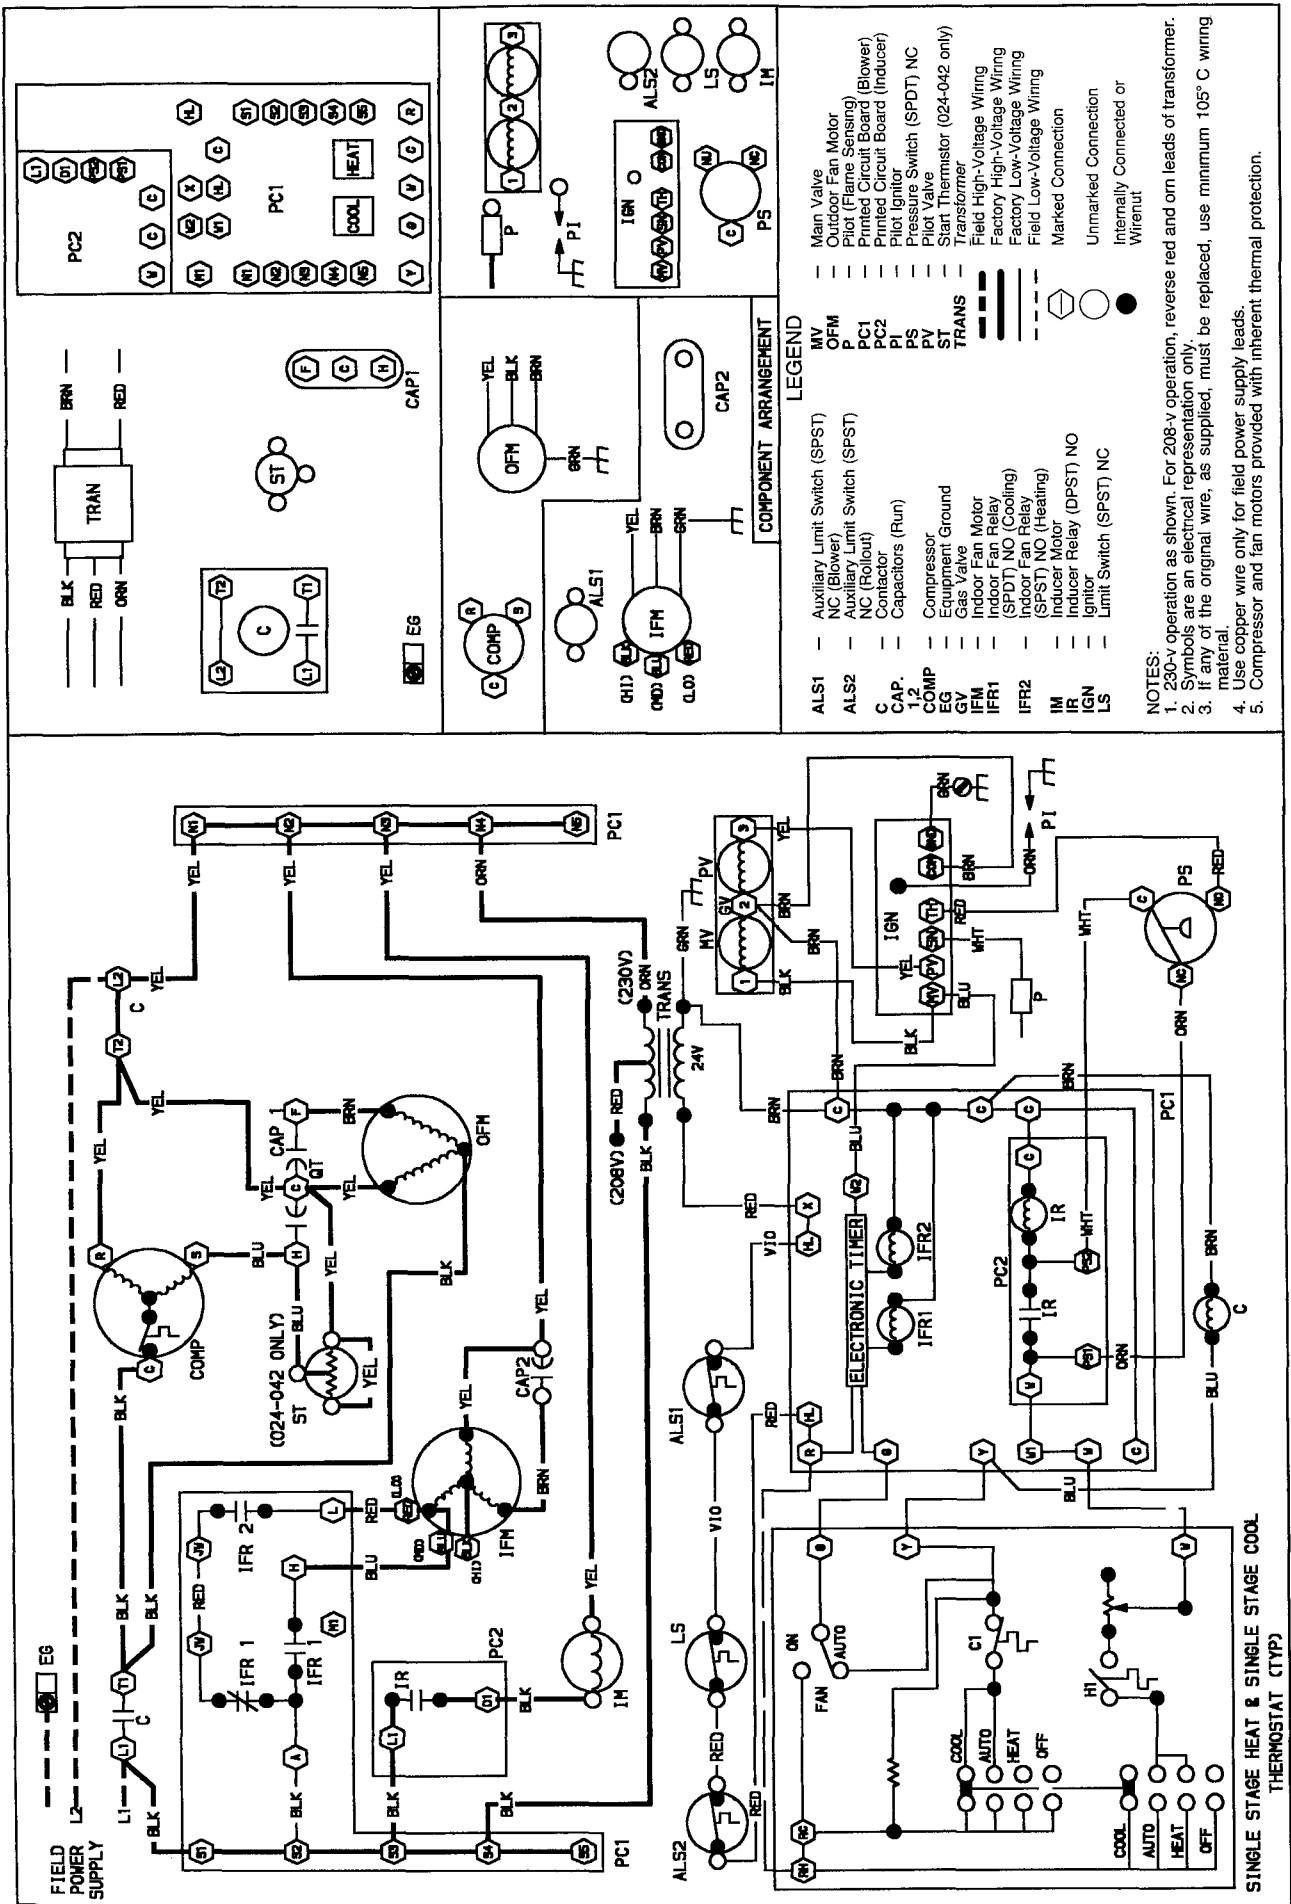
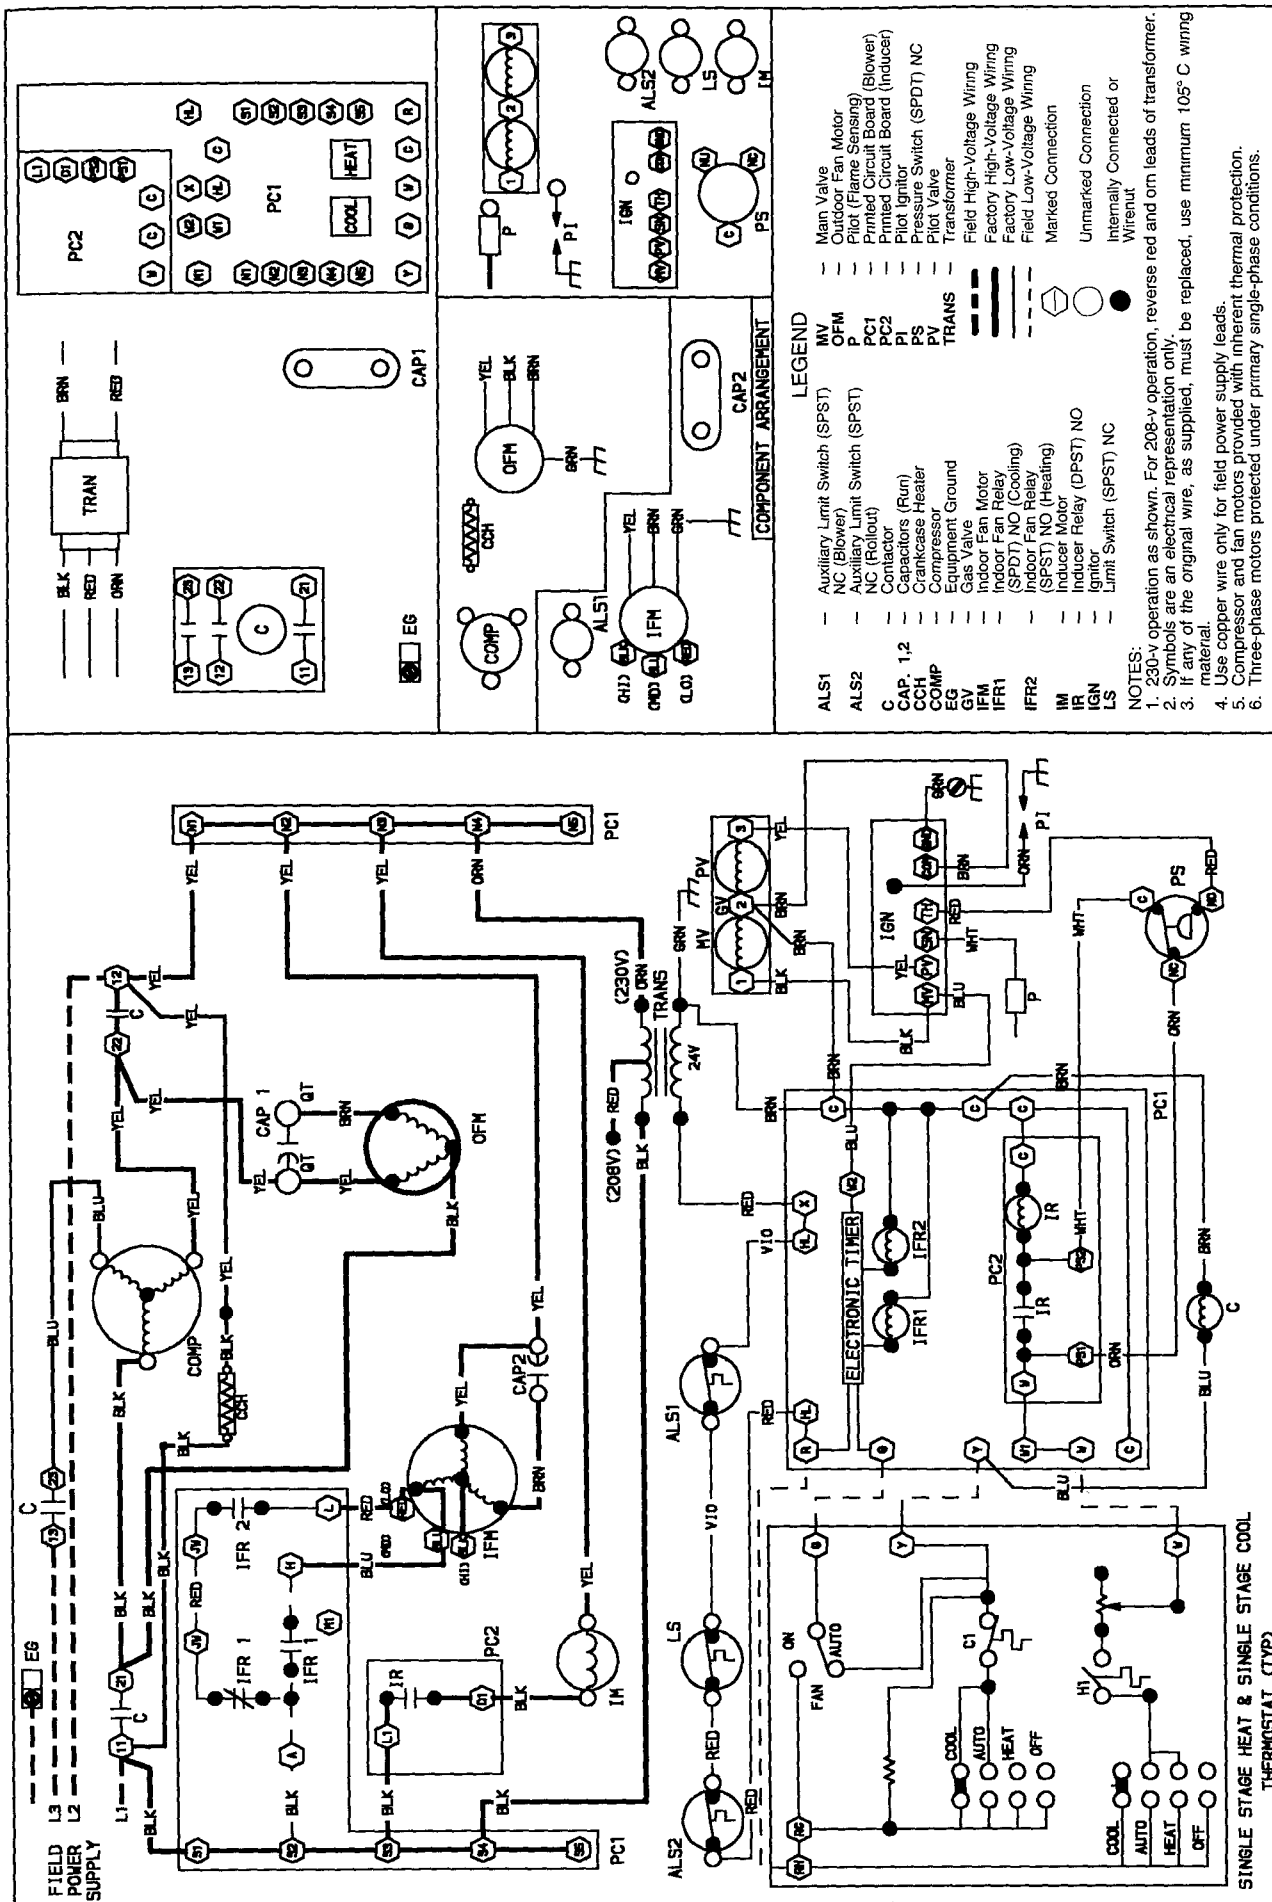

Fig. 13 — Typical Single-Phase Wiring Diagram
Fig. 14 — Typical 3-Phase Wiring Diagram
HEATING SEQUENCE OF OPERATION — See Fig. 13 for single-phase operation and Fig. 14 for 3-phase operation. Room thermostat calls for heat, closing circuit between R and W 24-v control circuit terminals. (Power to the R terminal is supplied through LS and ALS safety switches.) The PC2 inducer control board is energized through the normally closed set of contacts of pressure switches (CPS), which starts the inducer motor (IM). The IM comes up to speed, and the vacuum in the collector box increases, opening the normally closed and closing the normally open contacts of the pressure switch (PS), energizing the circuit to the ignition control (IGN) and the pilot valve (PV). If the flame sensor proves the presence of the pilot flame, the internal switching of the ignition control deenergizes the spark generator and energizes the main gas valve (MV) and the IFR2 electronic timer. Gas flows to the main burners and is ignited by the pilot flame. The PC1 electronic timer
LIMIT SWITCHES — Normally closed limit switch LS completes the control circuit through the thermostat R circuit. See Fig. 13 and 14. Should the leaving-air temperature rise above the maximum allowable temperature, the limit switch opens and the R control circuit “breaks.” Any interruption in the R control circuit instantly closes the gas valve and stops gas flow to the burners and pilot. The IFM continues to run until the LS resets.